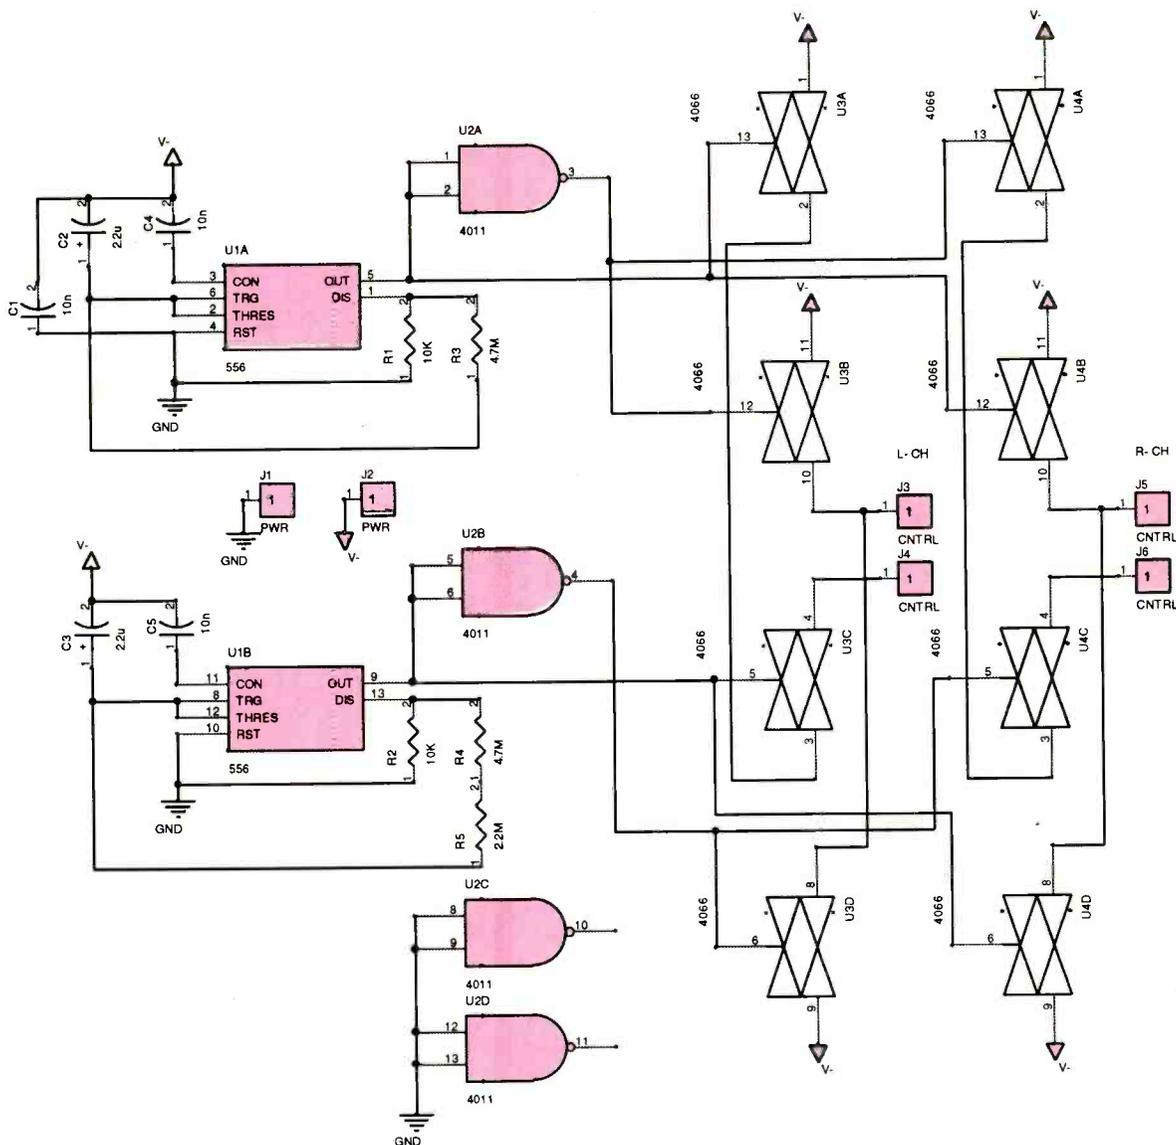
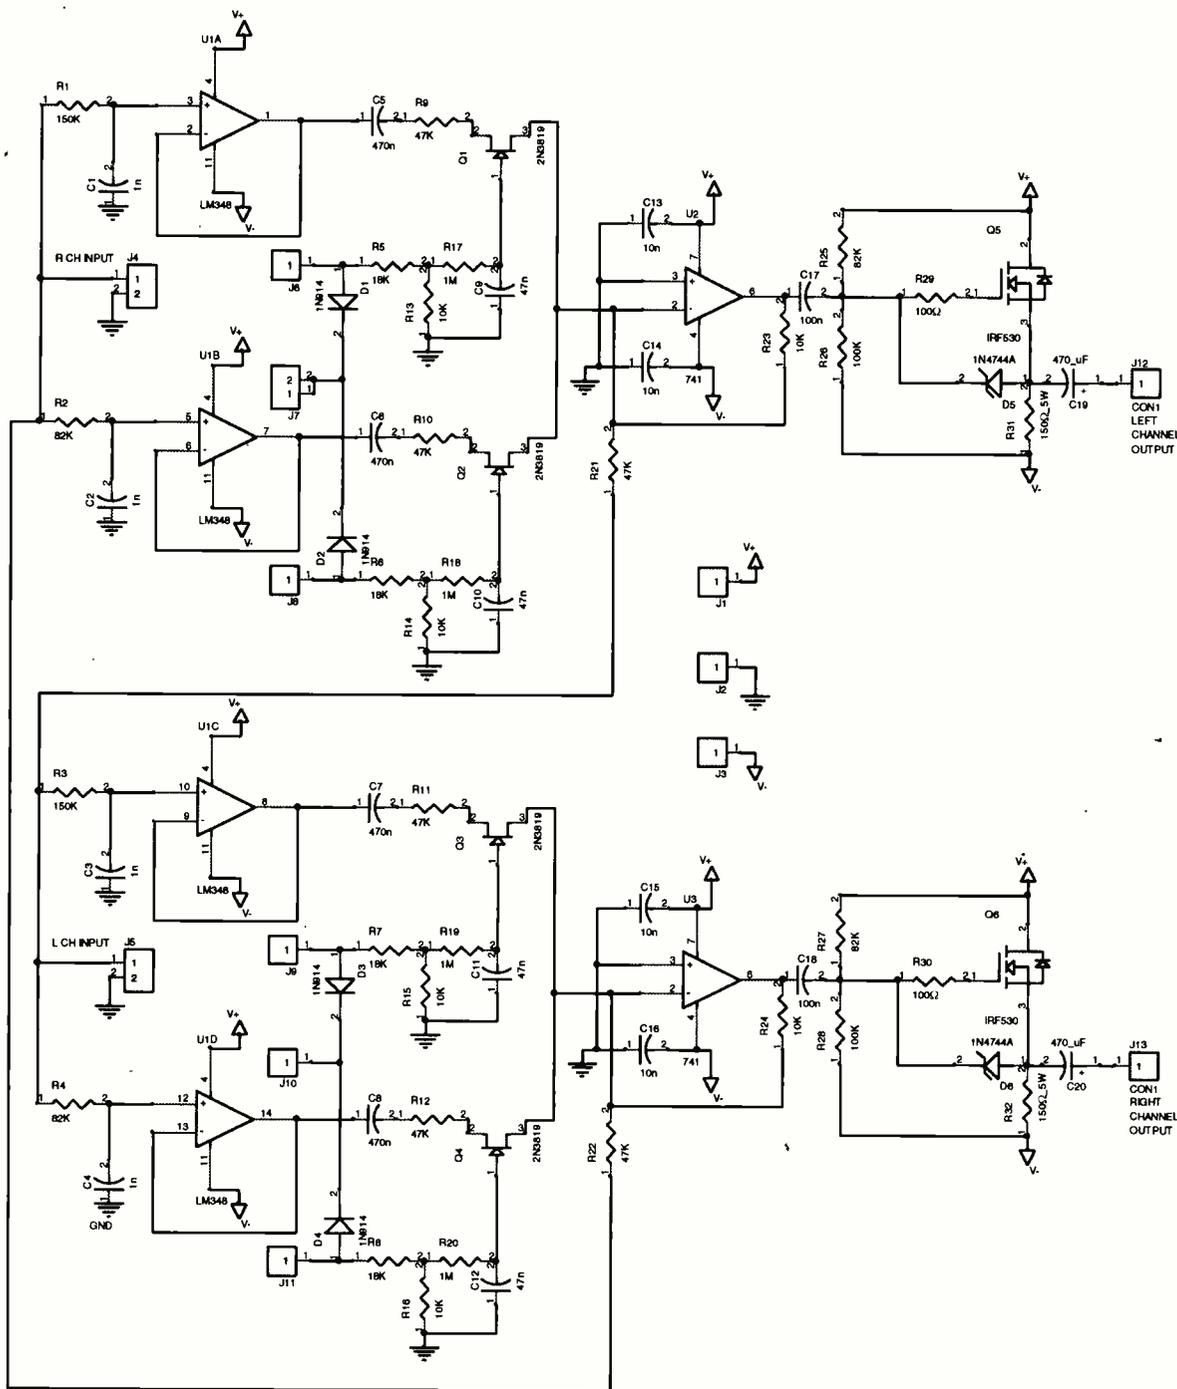

Fig. 2. Schematic diagram of the controlling circuitry.
Fig. 3. Schematic diagram of the signal-processing circuitry.
The controlling board of Fig. 2 randomly determines which of two legs of cross-feeding per stereo channel at any given time are mixed with the channel source signal. Both U1A and B are 555 timers configured as astable multivibrators, while U2A and B are NAND gates configured for signal inversion and ICs U3 and U4 are
Shown at Fig. 3, the schematic diagram of the signal-processing board includes U1A and C configured as low-pass filters with a cut-off frequency of 1 kHz and U1 B and D configured as low-pass filters with a cut-off frequency of 1.9 kHz. ICs U2 and U3 and power MOSFETs Q5 and Q6 are configured as audio mixers and channel-output stages for connection to a pair of
### PARTS LIST FOR THE CONTROLLING CIRCUITRY (FIG. 2)
### PARTS LIST FOR THE SIGNAL-PROCESSING CIRCUITRY (FIG. 3)
**Controlling Board.** The power-supply voltages of the controlling board shown at Fig. 2 are V- and ground for the purpose that will become clear later when the joint operation of the controlling and signal-processing boards (Fig. 3) is discussed.
ICs U1A and B are CMOS 555-type timers in a 14-pin package. As ground is positive with respect to V-, VCC equals ground for U1. Not shown at Fig. 2, pins 7 and 14 of U1 are connected to V- and ground, respectively. Timers A and B of U1 are configured as independently free-running multivibrators or square-wave generators.
**Signal-Processing Board.** Processing for the left-channel output is described here. Processing for the right-channel output has the identical elements of the left channel and complementary controlling voltages and signals. (See Fig. 3.)